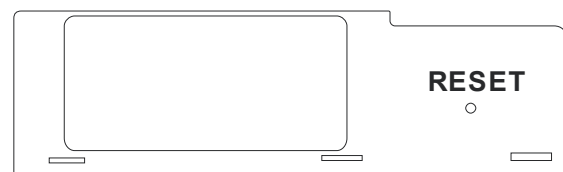

Figure 76
1. Press and hold, using a pointed object, the receiver's reset button until you hear two acoustic signals (see **Figure 76**).